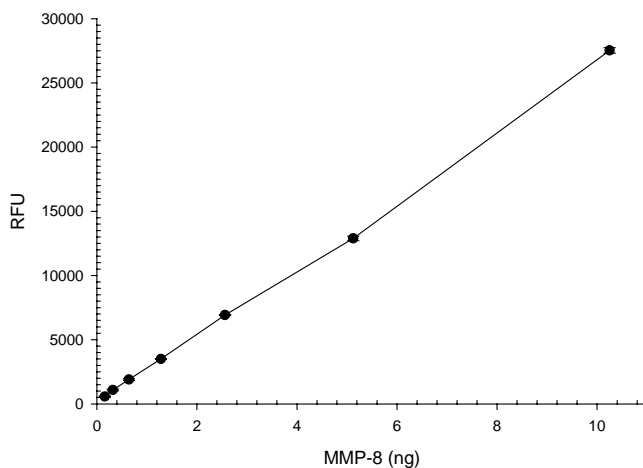

Figure 1. Sensitivity of SensoLyte® 520 MMP-8 assay kit.
- Plot data as RFU versus concentration of test compounds or enzyme concentration (Figure 1).